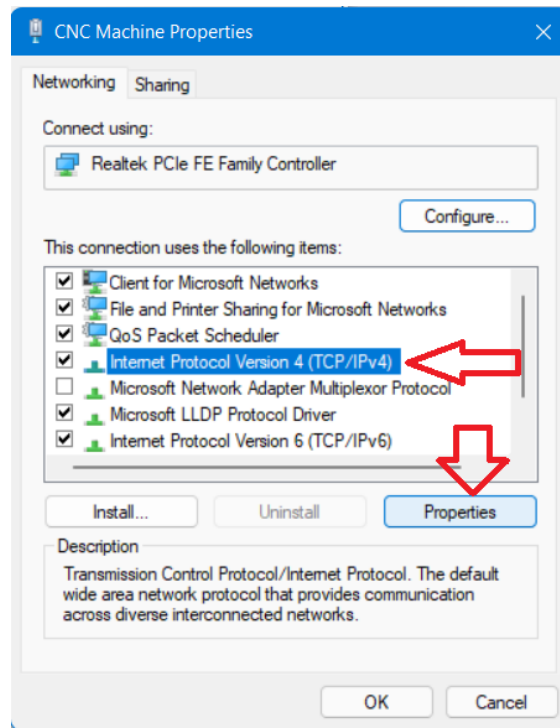

Figure 7: IPv4 Properties
- 4- On the popup window find and select the 'Internet Protocol Version 4(TCP/IPv4)' row and click the Properties button. See Figure 7.